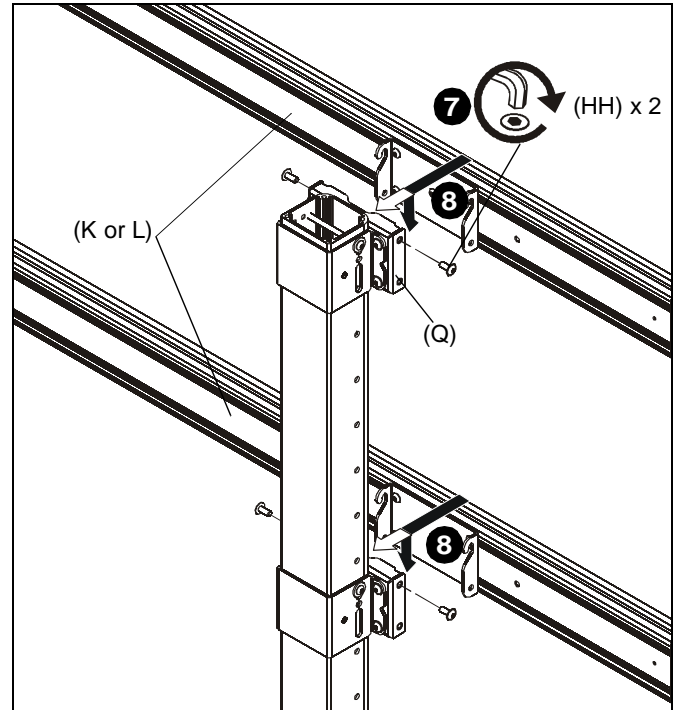

Figure 12
7. Install two 5/16-18 x 3/4" button head flange screws (HH) into the top holes on each quick connect base (Q). (See Figure 12)
8. Hang rails (K or L) into screws installed in previous step to quick connect bases (Q). (See Figure 12)